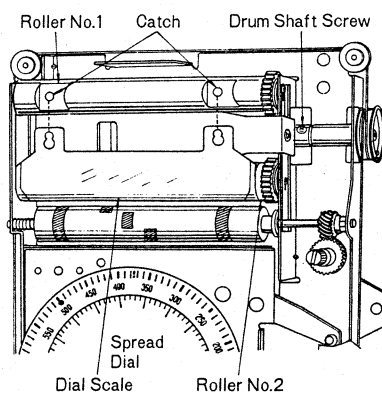

Fig. 10
3. Loosen the one (1) screw for the drum shaft, as shown in fig. 10.
5. Wind the dial scale onto roller no. 2 shown in fig. 10 and secure the gear of roller no. 2. Hook the dial scale on the catch of roller no. 1, as shown in fig. 10.